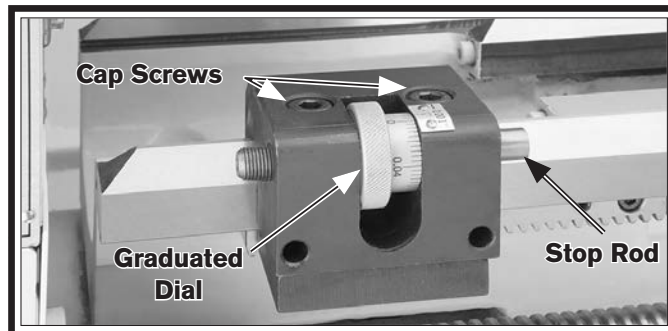

Figure 61. Micrometer stop.
2. Loosen the cap screws shown in **Figure 61**, then use the carriage handwheel to position the carriage at the desired stopping point.